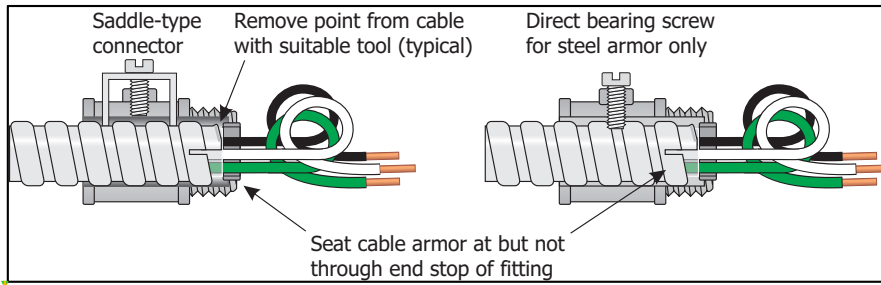

Figure 6.4 Position of cable in connector
b. *Connectors or fittings* used to connect AC cable to the box or fitting must protect the conductors from abrasion, unless the design of the outlet box or fitting provides the required protection. Listed fittings for Type AC cable provide the required protection. To ensure adequate mechanical securement, the cable should be inserted into the connector until it is flush with the connector's end stop. Screws or direct-bearing tabs provided on some connectors or box clamps should be positioned to seat between convolutions of the armor sheath. Fittings with direct bearing screws are permitted only on cables with steel armor. See Figure 6.4.